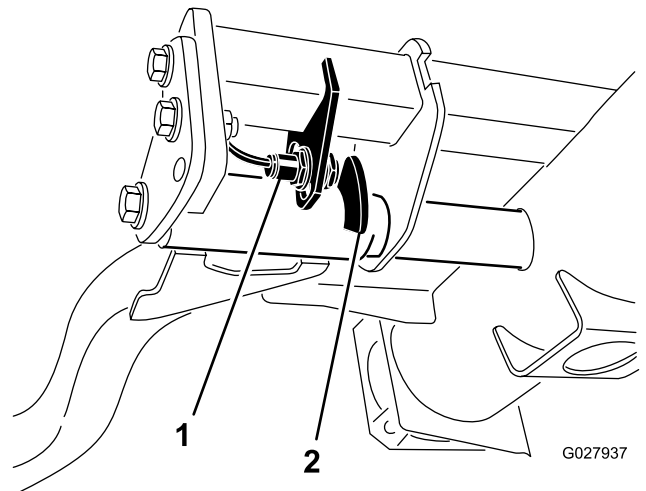

Figure 68
2. The lift-arm switch is located underneath the hydraulic tank behind the front, right lift arm (Figure 68).
3. Loosen the switch-mounting screws and move the switch down to increase the lift-arm turnaround height or move the switch up to decrease the lift-arm turnaround height (Figure 68).